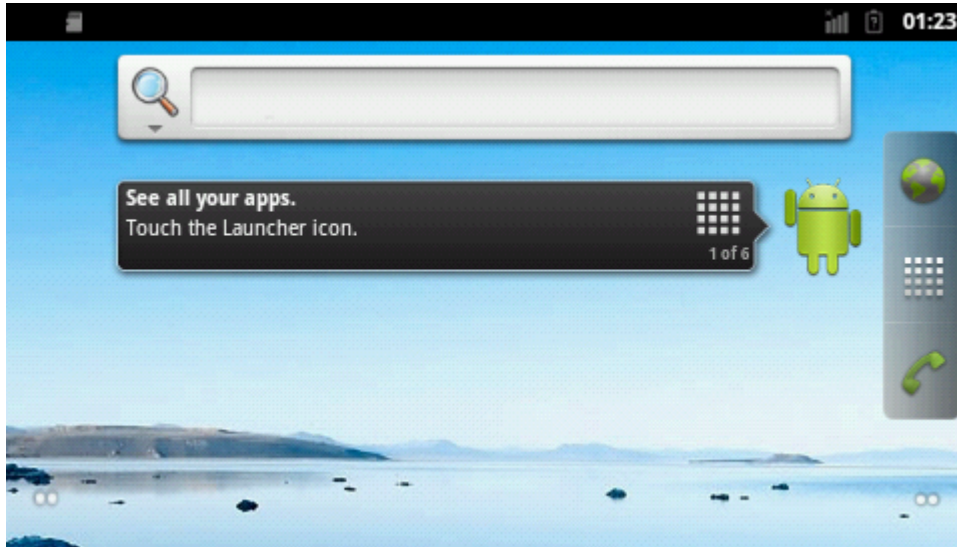

Figure 5-13
(3) Press User1 key or F1 key in usb keyboard can unlock system. After unlocking system, interface is shown in figure 5-13: